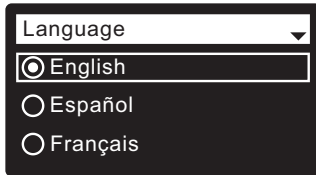

FIG. 28
- 1. LANGUAGE** If the desired language already has a dot next to it (See Figure 28), go to Step 2. Otherwise, press the conditioner/refiner’s DOWN (▼) or UP (▲) buttons to scroll to the desired language, then press the SELECT (○) button to choose it.